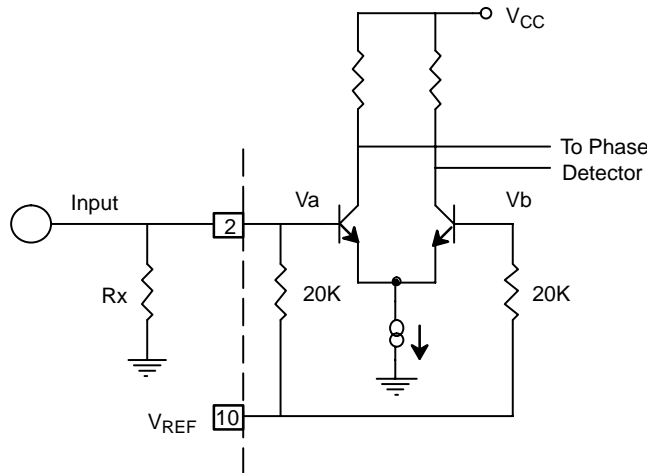

Figure 4. Desensitizing Input Stage
- f) The input to the XR-2211A may sometimes be too sensitive to noise conditions on the input line. *Figure 4* illustrates a method of de-sensitizing the XR-2211A from such noisy line conditions by the use of a resistor, Rx, connected from pin 2 to ground. The value of Rx is chosen by the equation and the desired minimum signal threshold level.